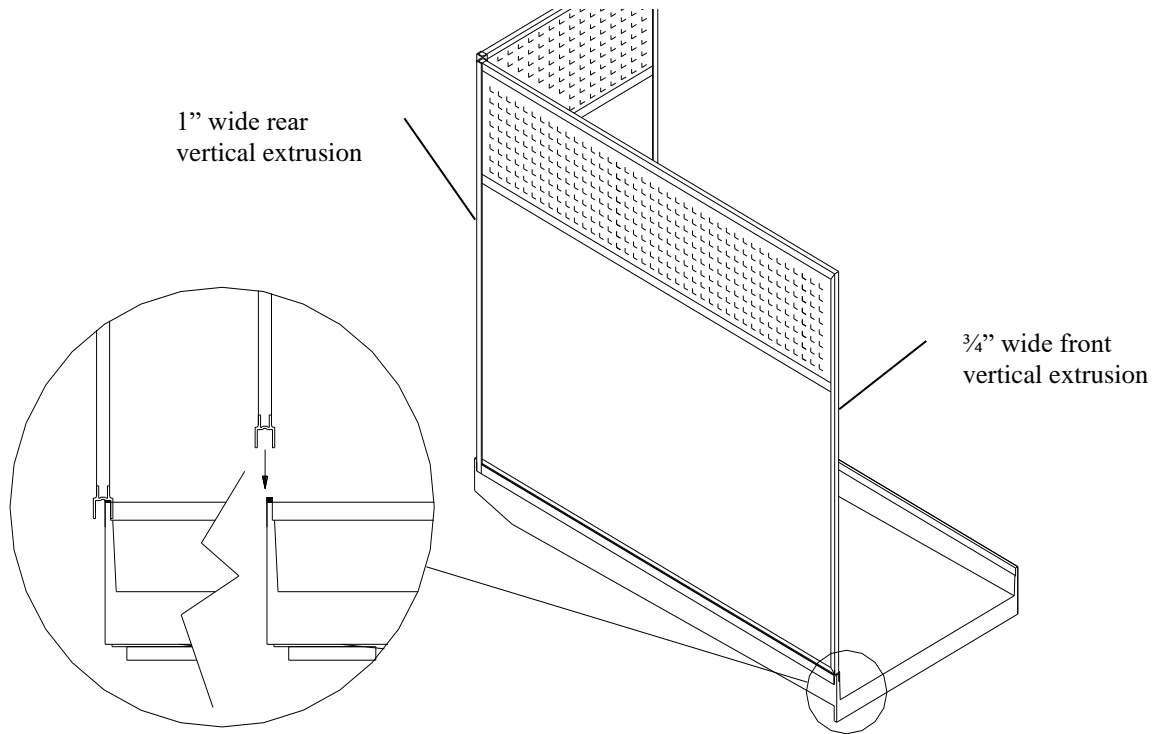

Figure 5.
1. Beginning at one end of the system, place a division panel and a back panel onto the Ultrabase. It is important to have the division panel oriented with the narrower vertical extrusion toward the front of the Ultrabase. See Figure5.